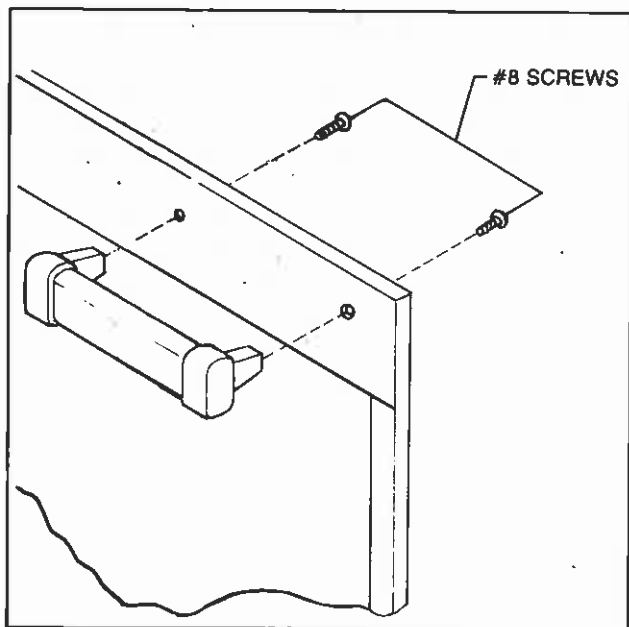

Fig. 10. Mount door handles.
Mount both door handles using the four (4) #8-32 screws provided. (See Fig. 10). Mount to front door assemblies.